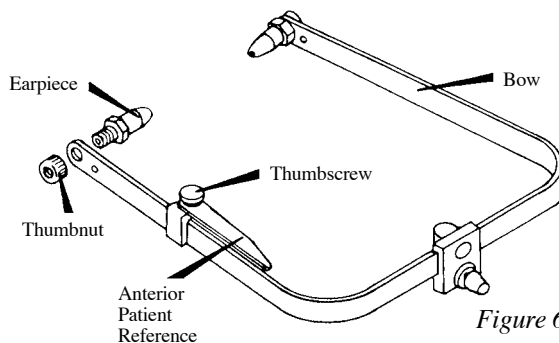

Figure 6
1. Finger attach the Earpieces to Bow using the knurled Thumbnuts, Figure 6. No wrenches are necessary with the HANAU™ Spring-Bow.